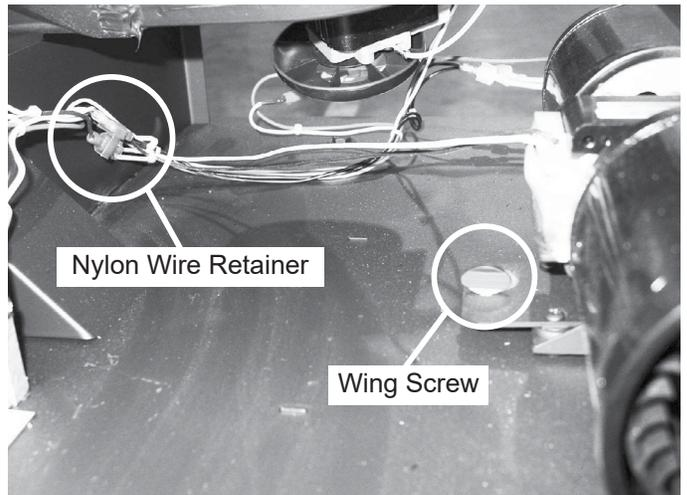
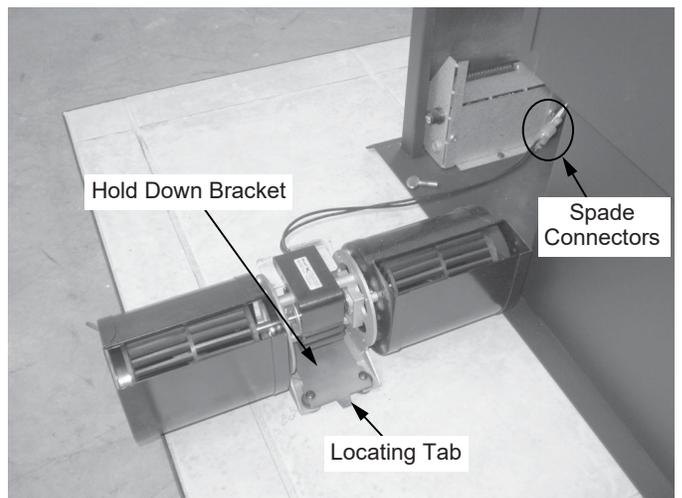

Figure 24.3
Figure 24.4
5. Remove the wing bolt and move the blower and hold-down bracket toward the back of the appliance to release the locating tab (**Figure 24.3**). Pull the blower out from under the convection plenum. Slide the blower out of the appliance. Disconnect the wires from the spade connectors at this time (**Figure 24.4**).
6. Return wires to nylon wire retainer. Make sure wires do not contact any moving parts or touch any surfaces that may become hot (**Figure 24.4**).